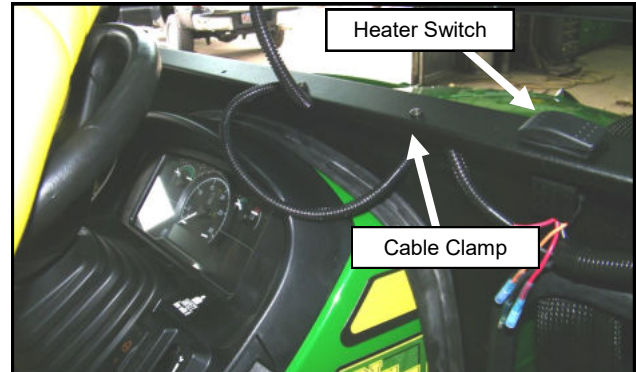

Fig. 15.4 (Secure Wire Harness)
- 15.4** Open the windshield and secure the wiring harness underneath the cowl using cable clamps. See figure 15.4.